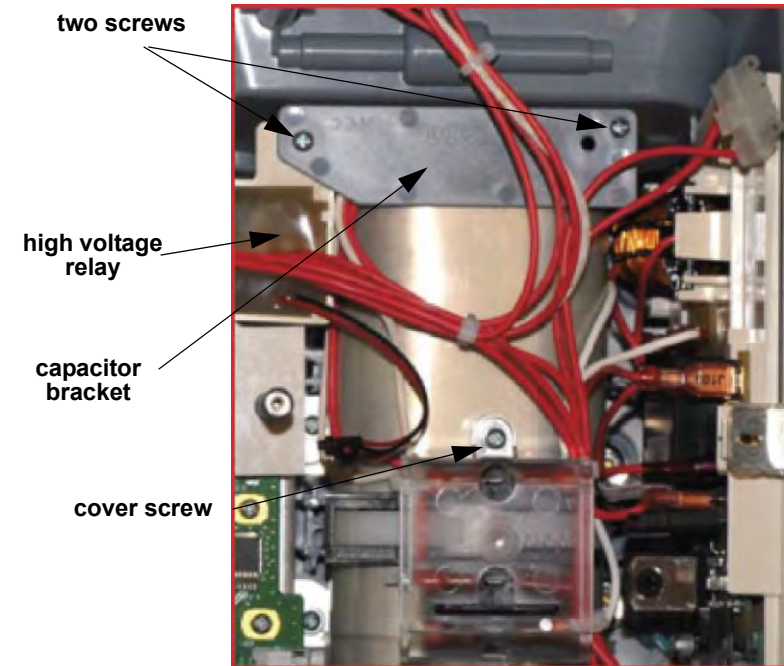

Figure 8.65—Transfer relay parts and screw locations
Refer to Figure 8.65 on p. 269.
3. Connect the white transfer relay lead to the interconnect bracket at pin 7 (see Figure 8.65 on p. 269). Needle nose pliers may be used to assist in the connection.
5. Install the capacitor bracket (3207031-001) using two new screws (202253-761); torque to 6.8 in-lb (see Figure 8.65 on p. 269).